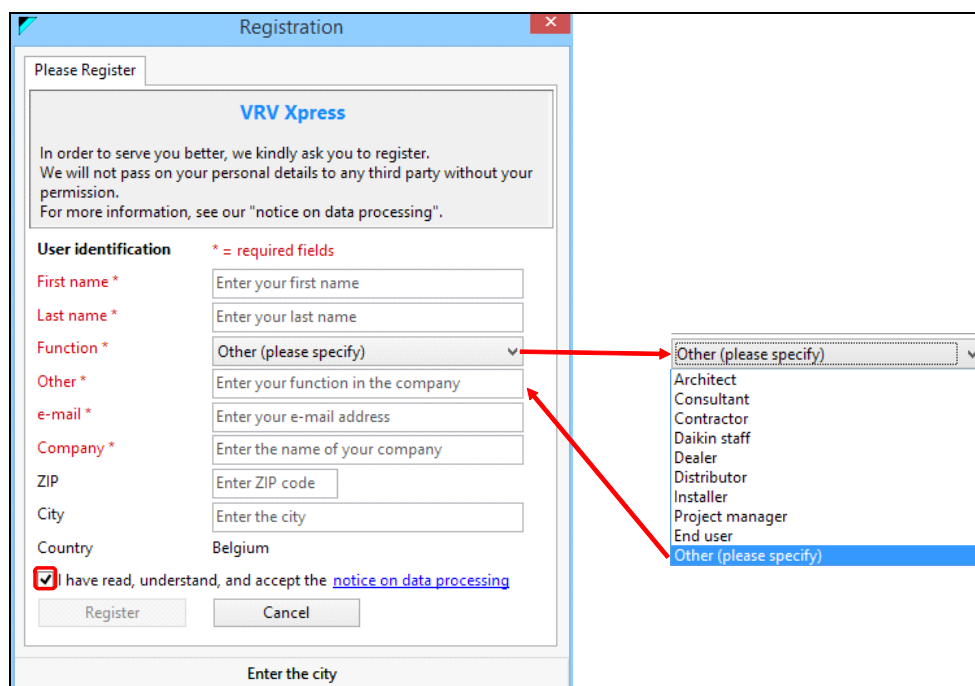

Figure 16: The registration form
1. First you have to fill in registration data, as shown in Figure 16